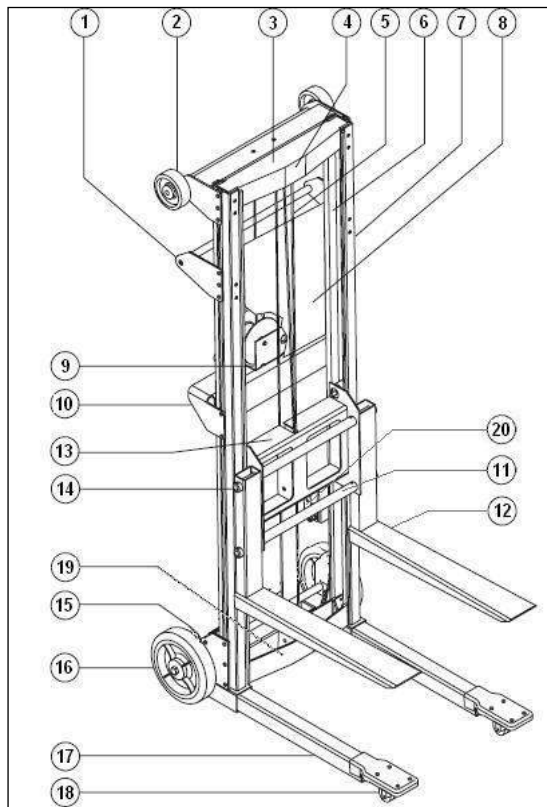

Figure 9: Genie Lift Components
2. Insert a leg into a square tube leg socket with the casters facing away from the Genie Lift as shown in Figure 9.